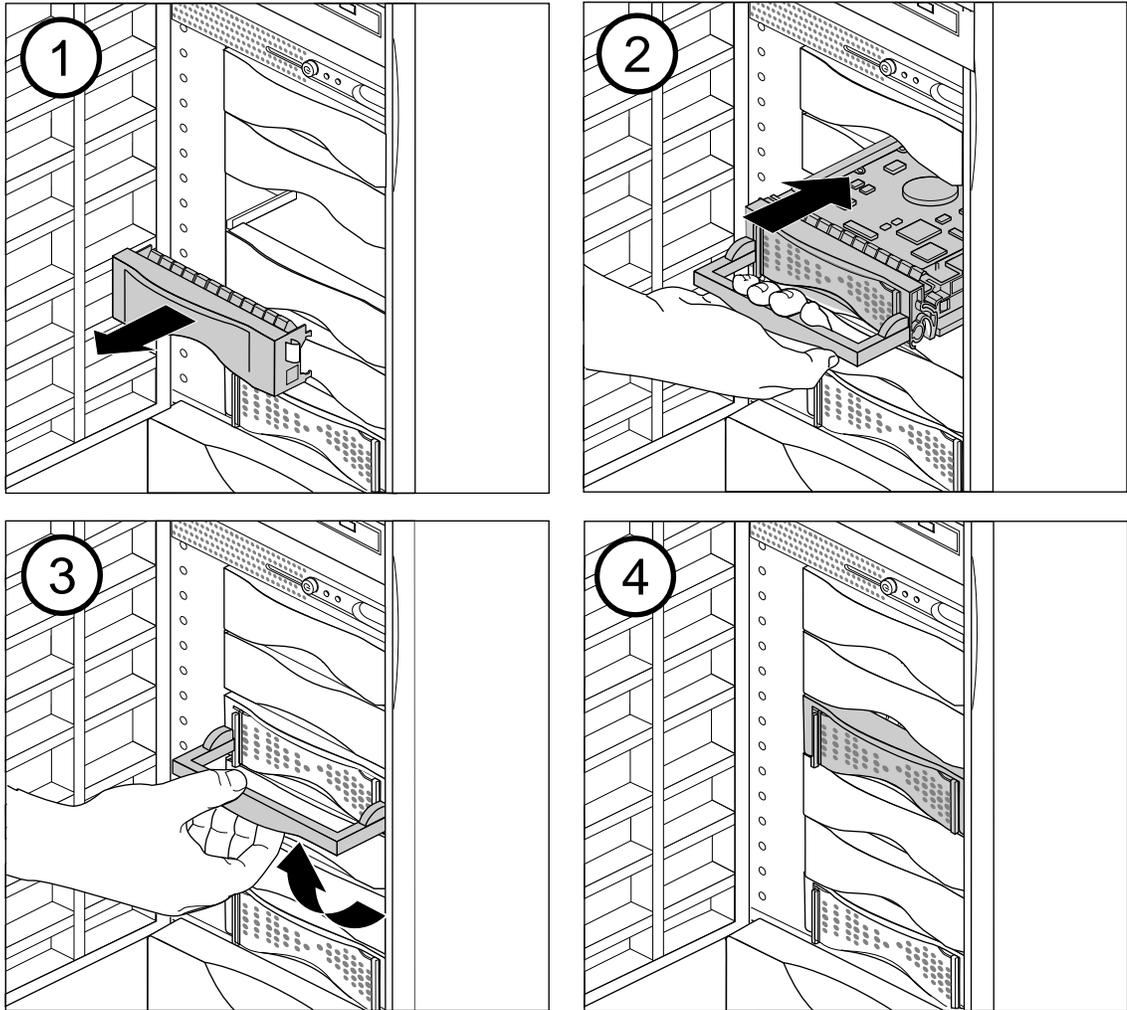

Figure 6-15 Installing a 3.5-Inch Peripheral in an Origin200 System
- If there is a plastic blanking plate covering the slot, remove it as shown in Figure 6-15.
- Fold the locking lever up to latch the drive in place, as shown in Figure 6-15.